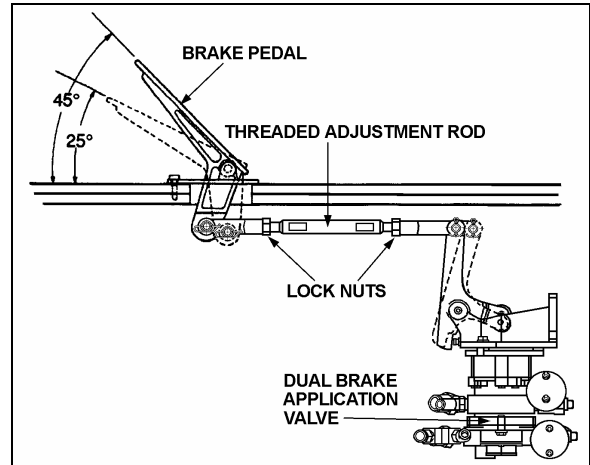

FIGURE 11: BRAKE PEDAL ADJUSTMENT
The E-10P dual brake valve is a floor mounted, foot-operated type brake valve with two separate supply and delivery circuits. This valve is located in the front service compartment (Fig. 11).
1. Replace the linkage, loosen threaded rod lock nuts and screw or unscrew the threaded adjustment rod in order to obtain a 45° brake pedal inclination (Fig. 11).